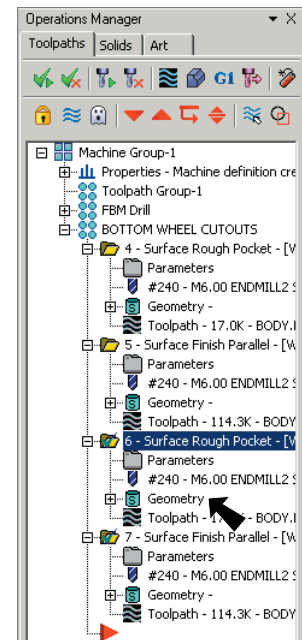

Fig. 52
Step 2. Expand (click +) **6 Surface Rough Pocket** and click **Geometry**, **Fig. 52**.